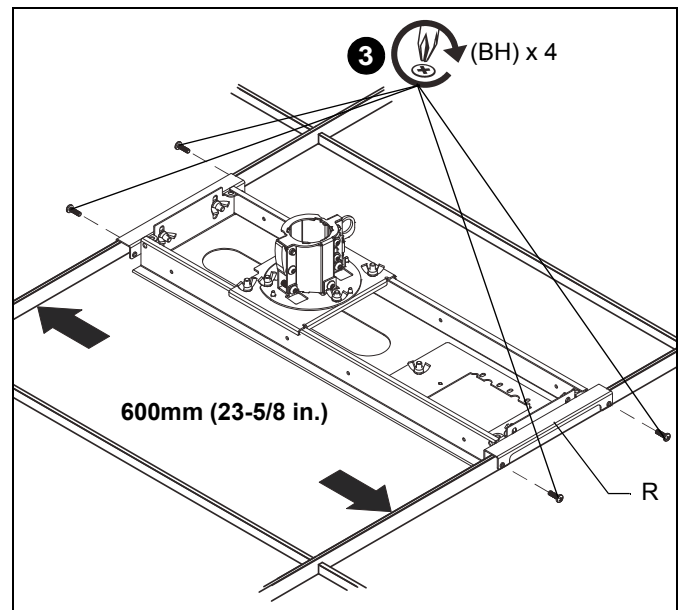

Figure 15
- **For 600mm (23-5/8 in.) Framework:** Install screws through end bracket *outside* holes. (See Figure 15)